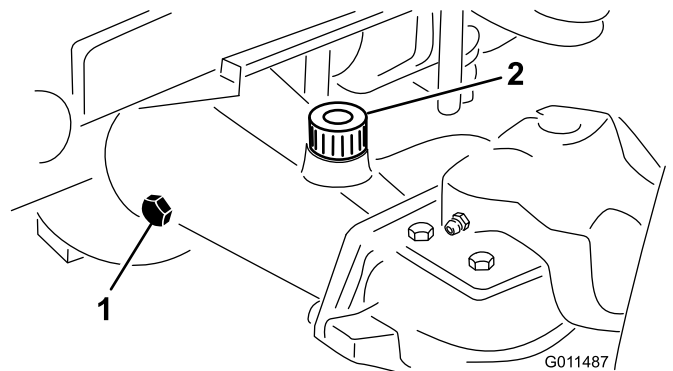

Figure 61
2. Remove a check plug from one end of the axle and ensure that the lubricant is up to the bottom of the hole (Figure 61).